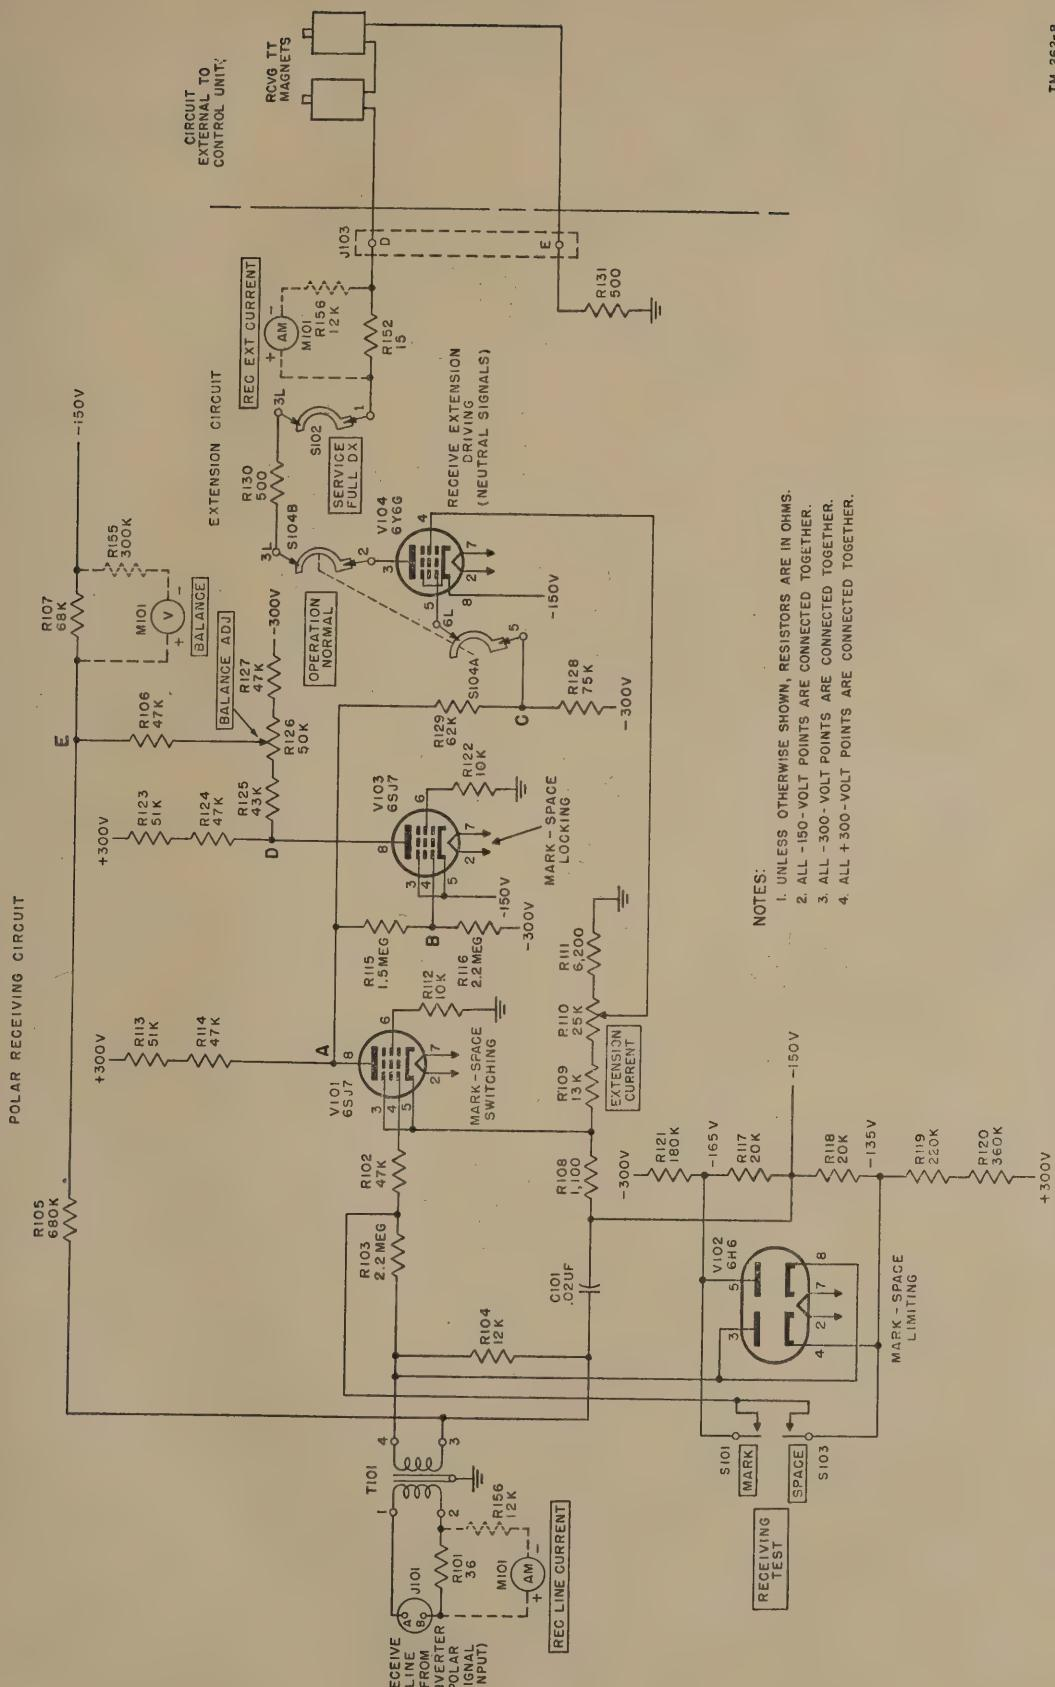

Figure 14. Simplified schematic diagram of receiving circuit arranged for full-duplex operation.
a. Operation of the control unit receiving circuit may be analyzed by examination of the schematic diagram of figure 14, which shows both the control unit receiving circuit and an external extension receiving circuit. Polar signals from the dual-diversity converter are applied to pins A and B of control unit input jack J101. Pins A and B are connected to the primary of input transformer T101, in series with meter-current resistor R101 (36 ohms). When a mark signal is transmitted by the dual-diversity converter, current enters at pin B of J101, flows through R101, through the primary of T101 (terminal 2 to 1), and out through pin A of J101. The voltage developed across R101 by mark or space signal current is applied to the meter circuit of M101 and R156 (when METER switch S105 is in the RECLINE CURRENT position), producing a deflection of the meter needle to the right (+) on marking signals and to the left (—) on spacing signals. (The complete metering circuit is shown in figs. 33 and 34.) The amplitude of the incoming mark and space currents read on M101, are adjustable at the receiving shelter by means of a control on the dual-diversity converter. The nominal line current for either signal is 25 ma, but the value of M101 multiplier resistor R156 is such as to cause the meter to read about three times that value.
d. When a mark signal is applied to the T101 primary, the secondary voltage rises rapidly to the limiting value of -15 volts which is approximately twice the cut-off value of V101 (and V103). Thus, V101 is cut off and plate current flow through resistors R113 and R114 stops. Tube V101 plate voltage at point A (fig. 14) rises sharply in a positive direction towards the limiting value of +45 volts, established by bleeder current flow through the network of R113 and R114 in series with the network of R115 and R116 in parallel with R128 and R129. The potential across the entire network is 600 volts, and the current flow through R113 and R114 is approximately 2.61 ma, dividing into .09 ma through R115 and R116 and 2.52 ma through R128 and R129. The resistance networks of both R115 and R116, and R128 and R129 are voltage dividers, the upper ends of which are connected to point A, the lower ends to -300 volts. As the voltage at point A rises when V101 is cut off, the voltage drops across both voltage dividers (R115, R116 and R128, R129) increase. The lower ends of the networks are at a fixed -300-volt potential, but the voltage at the upper ends and also at intermediate points B and C, connected to the grids of V103 and V104, rises in a positive direction. This voltage increase is sufficient to drive the grids of both V103 and V104 positive with respect to the cathodes (which are at a -150-volt potential), thus causing the tubes to conduct.
a. Figure 17 is a simplified schematic of the control unit extension circuit arranged for full-duplex RTT operation. The operating condition of full-duplex, half-duplex, or one-way reversible is controlled by rotation of SERV-ICE switch S102. The operation of neutral receive extension driving tube V104 (fig. 14) has been described in paragraph 30 and the functioning of the neutral send keying tube V107 (fig. 16) has been described in paragraphs 30 and 31. If the teletypewriters are located in the operating shelter, binding posts 3 and 4 are strapped to complete the receiving TT circuit to ground (through R131), and binding posts 1 and 2 are strapped to complete the sending TT circuit to ground (through R161). If external TT equipment is used, the straps shown at A are removed and the straps shown at B are connected. External receiving lines are connected to R and ground, and external sending lines are connected to T and ground, thus completing the circuits.